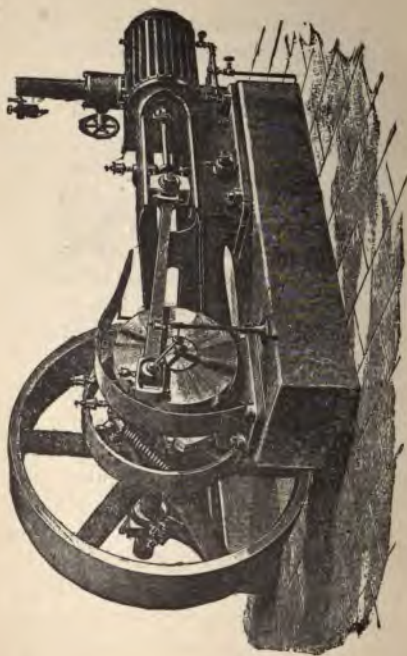
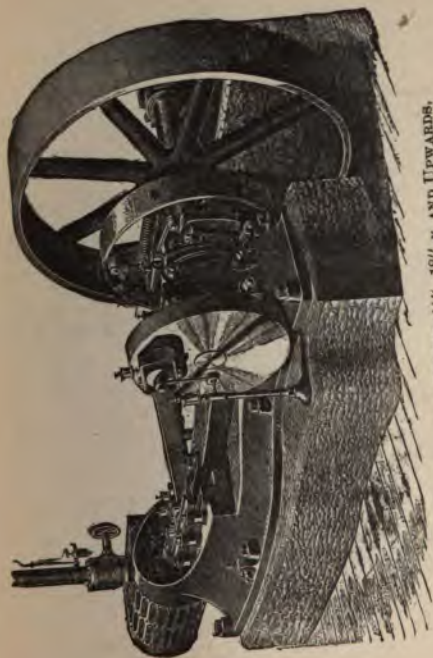

FIG. 48. RUSSELL ENGINE UP TO 11" X 16".
FIG. 49. RUSSELL ENGINE. 11" 18" x AND UPWARDS.
**A.** Fig. 48 shows the design up to and including 11"  $\times$  16"; Fig. 49, the 11"  $\times$  18" and upwards. The bed is "semi-girder" in type, on all sizes up to 11"  $\times$  16"; on larger sizes it is of the so-called Tangye type, with locomotive girders, cylinder overhung; guides bored; crosshead pin in centre of length of the head; crosshead clamped to the piston rod; connecting rod with solid ends and wedge adjustments; crank of disc type. The governor (see Figs. 50 and 52) shifts the eccentric across the shaft, thus altering eccentric throw and valve travel. The lead is constant for all points of cut-off. There are two sets of governor weights pivoted near the case-rim. Their outward